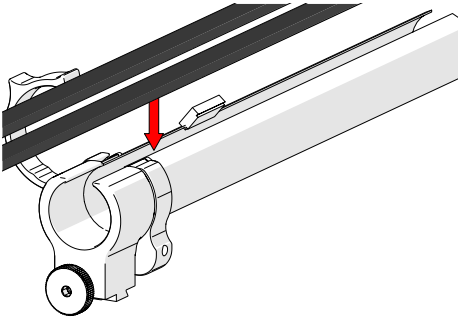

Fig. 89 - Insert cables and hoses
1. Open the cable management. Begin at the tube's dovetail mount and place the cabling in the tube (*Fig. 89*).